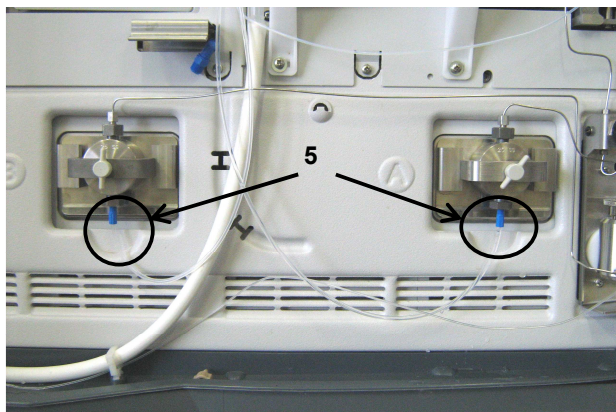

Figure 7: SUM connection to the pump inlet valves
6. The end of the 2 lines connected to the de-bubbler and the SUM, should connect into the inlet valves of the pumps (5) as seen in Figure 7.